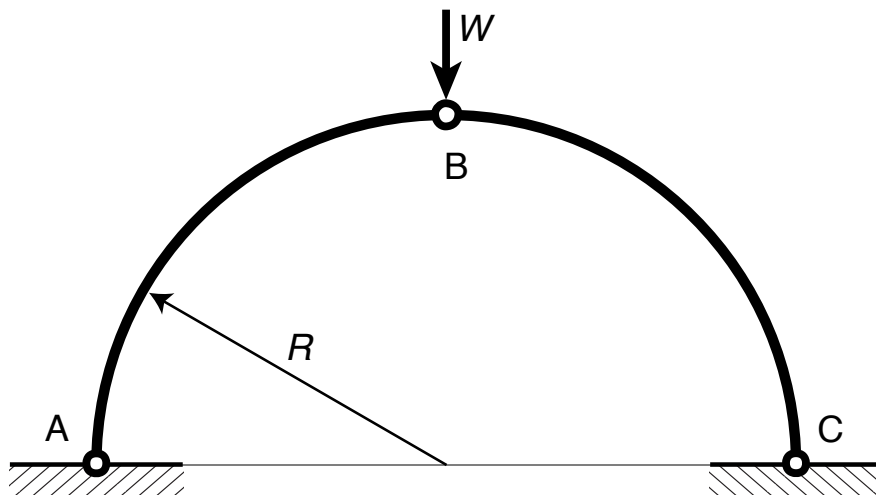

Fig. 8
- † 8. For the semi-circular pin-jointed arch in Fig. 8, find the location and magnitude of the largest bending moment in the arch members.